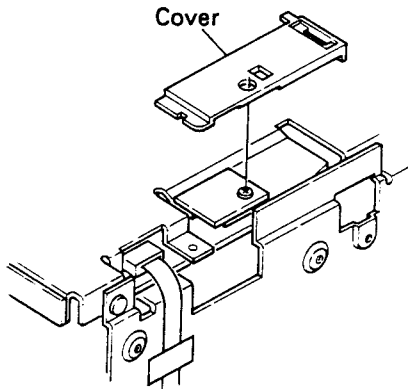

Fig. 13
1. Detach the detent and remove the cover. (Fig. 13)